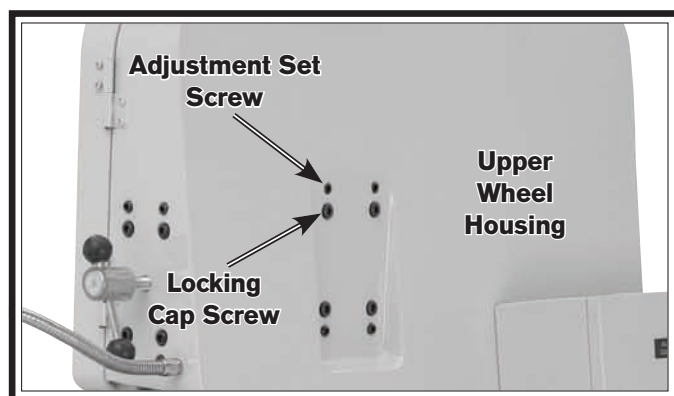

Figure 45. Wheel alignment.
4. Using a 6mm hex wrench, loosen the four locking cap screws (see **Figure 45**).
5. Use a 5mm hex wrench to adjust the four set screws (**Figure 45**) to tilt the upper wheel in or out and bring blade tracking back to normal. Only adjust each screw in small increments.